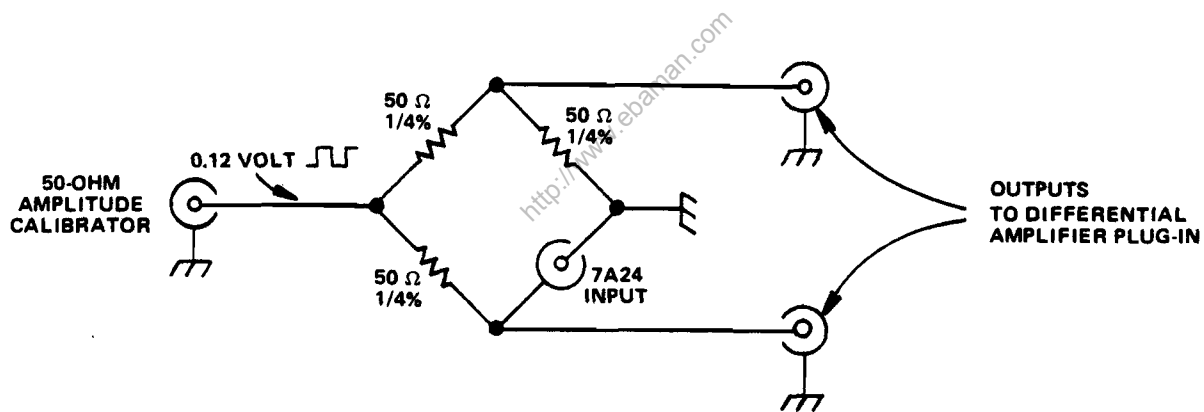

Fig. 5-1. Test circuit for Input Resistance Check/Adjust.
2Any method of accurately ( $\pm 0.5\%$ ) measuring resistance may be substituted for this piece of equipment and the test circuit shown in Fig. 5-1.
- Connect the test circuit, as shown in Fig. 5-1, to the CH 1 input.